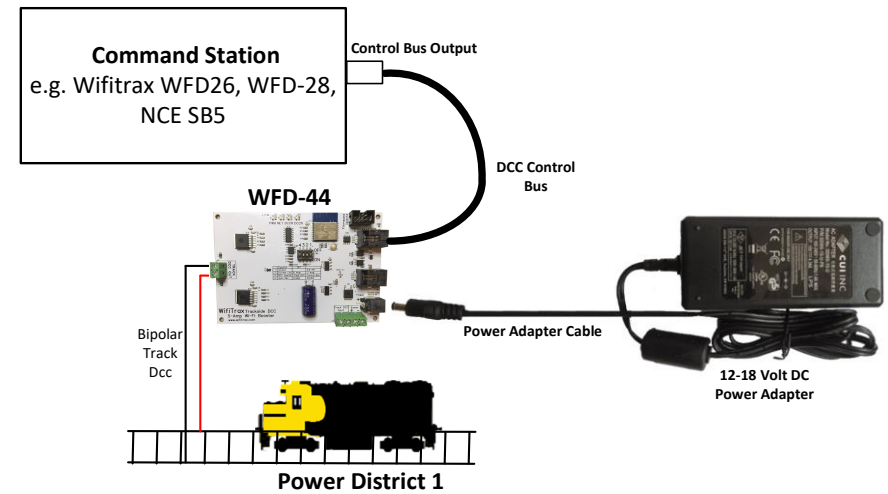
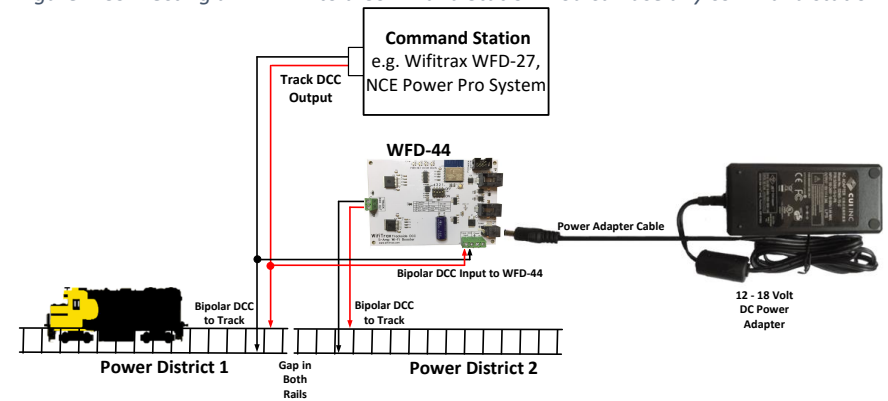

Figure 2 Connecting a WFD-44 to a Command Station. You can use any command station
Figure 3 Connecting a WFD-44 to a Command Station/Booster. You can use the output of any booster.
- Connect the control bus of your existing DCC Command Station to the WFD-44 as in Figure 2, or
- (4) Once your device has connected to the WFD-44 Wi-Fi, open a browser such as Google Chrome and type the IP Address of the module:
- (1) Press the Home button and tap the settings icon on your Android phone or tablet:
- (2) Find the Wi-Fi option. On Android 7, you tap Connections on the left, then Wi-Fi on the right.
- (3) You see a list of available Wi-Fi Connections on the right. Look for one like wftrx_WFD44_1_XXXXXXX_7, where XXXXXXXX is the serial number of your unit that appears on its label. Tap on that – no password is required – and wait for it to connect.
- Use the track DCC (bipolar DCC) output from your existing command station/booster to your WFD-44 as in Figure 3. You then connect its track outputs to a new DCC Power District.
- (1) Connect your WFD-44 according to either Figure 2 or Figure 3. You can use Wifitrax or any manufacturer's compatible product to provide DCC as you wish. The Wifitrax WFD-26, 27 or 28 are ideal. Just remember to distinguish between Control Bus inputs and Bipolar Track DCC inputs.
- (2) Set the DIP switches on your WFD-44 according to your requirements as in Table 1.
- Select the DCC Input Source to Control Bus or Bipolar Track DCC according to whether you are wired as in Figure 2 or Figure 3.
- (3) Connect a suitable Power Adapter to your WFD-44. A 15V DC output is ideal as the track voltage will then be around 14V. Remember that the Power Adapter voltage determines the track voltage. The track voltage is usually about 1V less than the Power Adapter voltage. **Do not exceed the maximum DCC voltage for the decoders on your layout.**
- (4) Turn on your command station and WFD-44 Booster. The Red LED should light immediately followed by either the blue or amber. The green will only light when you use the Wi-Fi features of your booster.